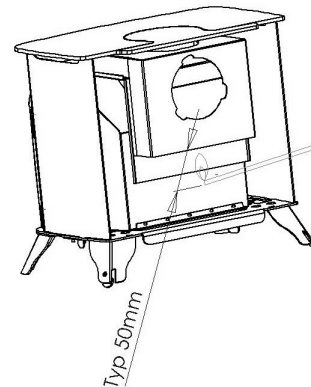

Fig. 19a
Step 4. Position the smoke match at the back of the fire centrally beneath the rear diverter as shown in **Fig 19a**.